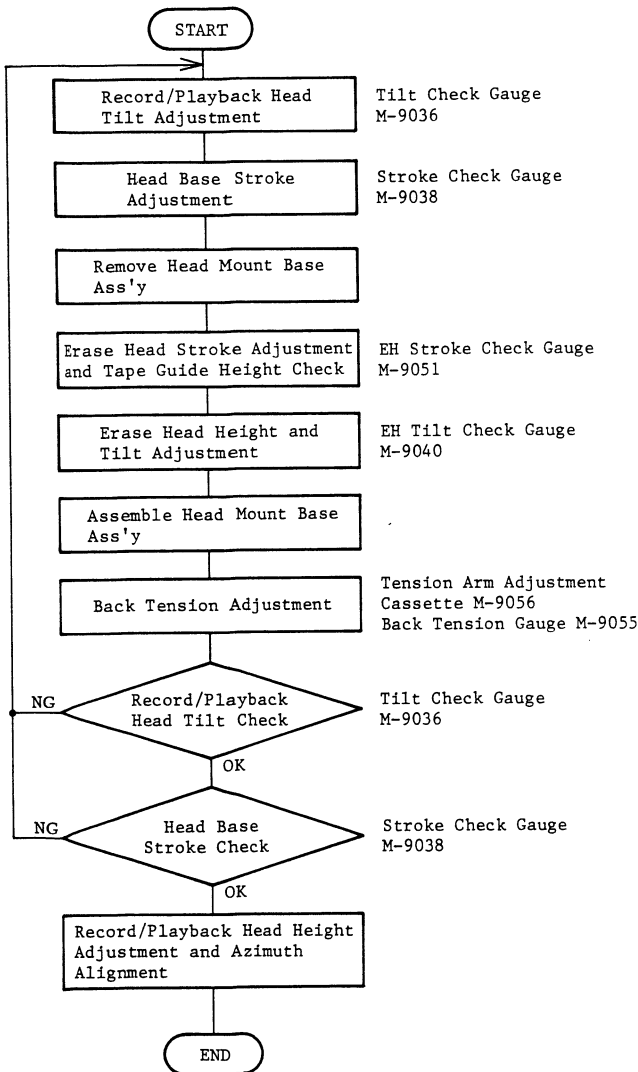
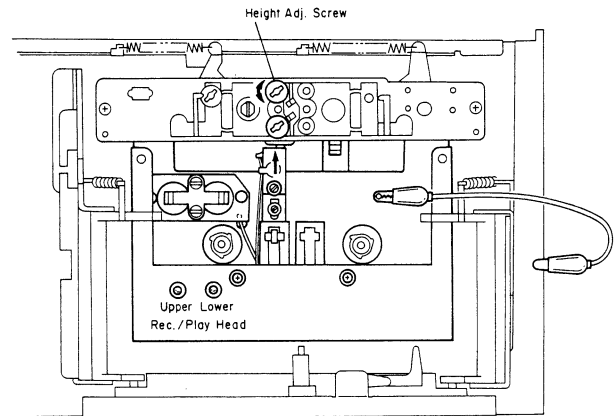

Fig. 2.4
Fig. 2.5
Note: On items 2.4 — 2.9, refer to Fig. 2.4 flow chart. Refer to Figs. 2.5 and 2.6.
- (1) Load a Tilt Check Gauge M-9036 (DA09036B) in the cassette deck.
- (2) Clip the grounding terminal of the Tilt Check Gauge with one end of the cord with clip, and the chassis of the cassette deck with the other end.
- (3) Remove the Height Gear.
- (4) Set the cassette deck in Play mode. Check to insure whether the Beacon "Upper" or "Lower" is illuminating. In order not to give damages onto the record/playback head surface, push the slide knob of the Gauge to the direction of an arrow mark, then return it to the original place to be in contact
- (5) Check to insure freedom from contact between the Gauge and pad lifter.
- (6) Beacon "Lower" will light on when height adjustment screw turned clockwise but "Upper" when counterclockwise. Adjust so that both "Upper" and "Lower" will light on even when you move the slide knob to the direction of an arrow mark and then return it to the original place.
- (7) Set the cassette deck in Stop mode and fit the serrated Height Gear. Then set the cassette deck again in Play mode and insure 2 Beacons "Upper" and "Lower" are illuminating. If not, (3) through (6) will have to be repeated till satisfactory results are obtained.